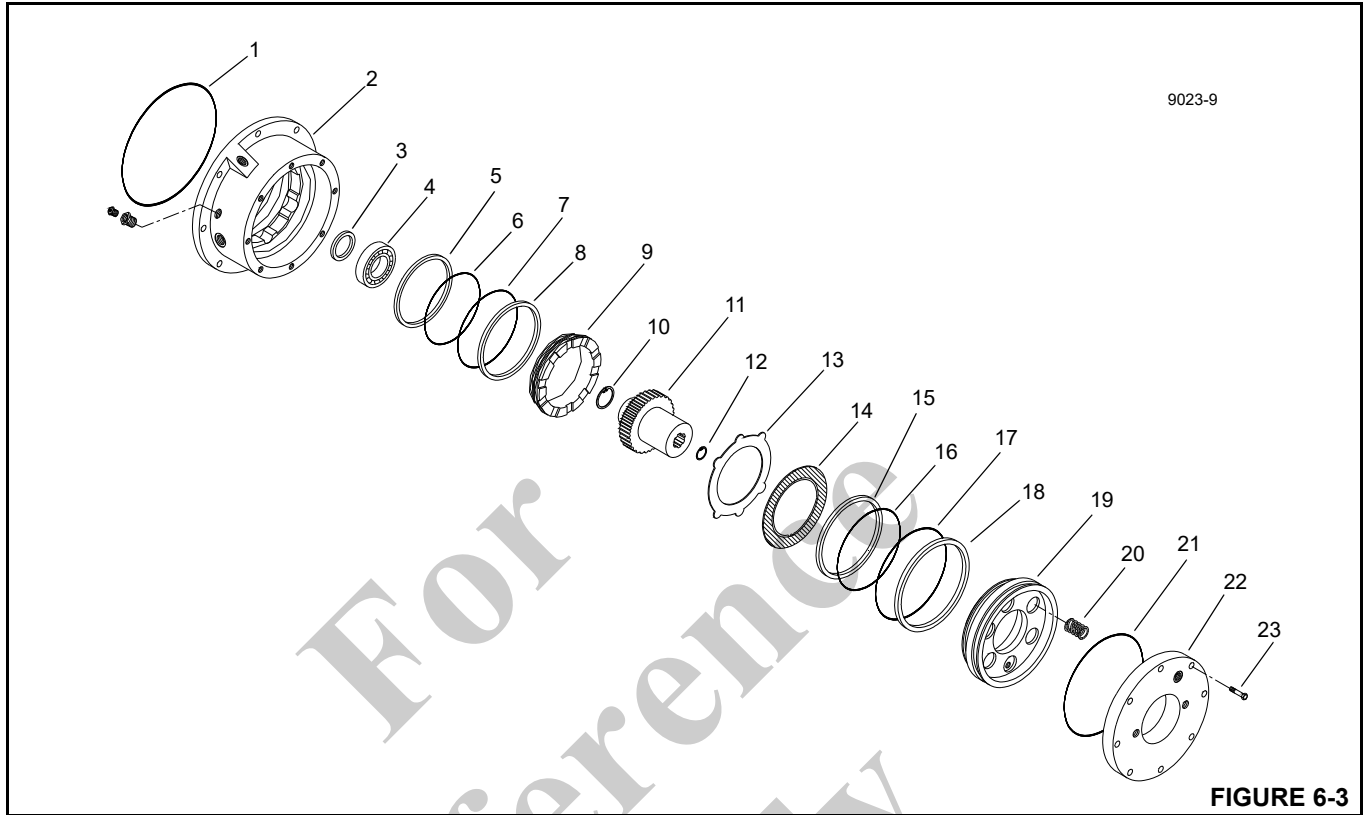

FIGURE 6-3
7. Place the gear housing (1) on a table with the gear end of the output shaft (2) on the table surface.
8. Lower the output planetary assembly (10) into the gear housing until the planetary gears engage the teeth in the gear housing. Lower the output planetary assembly until the planetary gears engage the teeth on the output shaft. Rotate the output planetary assembly or the output shaft until the output planetary assembly slides down to allow full contact between the two sets of gear teeth.
10. Install the thrust washer (11) and the output sun gear (12) in the end of the output planetary assembly (10).
11. Lower the input planetary assembly (13) into the gear housing (1) until the planetary gears engage the teeth on the input end of the output sun gear (12).
12. Rotate the input planetary assembly (13) or the output shaft until the input planetary assembly slides down to allow full contact between the two sets of gear teeth.
13. Firmly hold the pinion end of the output shaft (2) and slowly rotate the gearbox assembly to ensure free rotation of installed planetary assembly.
14. Install the thrust washer (11) and the input sun gear (14) into the input planetary assembly (13).
15. Lubricate a new O-ring (1, Figure 6-3) and install it in the groove in the top of the gear housing (1).
16. Place the brake assembly (15) onto the top of the gear housing (1). The marks made during the disassembly process will aid in properly lining up the brake assembly on the gear housing (1).
17. Install the eight capscrews (16) in the brake assembly (15) and torque them to 40 Nm (30 ft-lb).
18. Apply pipe sealant on one of the drain plugs (17) and install the plug in the lower hole of the gear housing (1).
See Figure 6-3 for the following procedure.